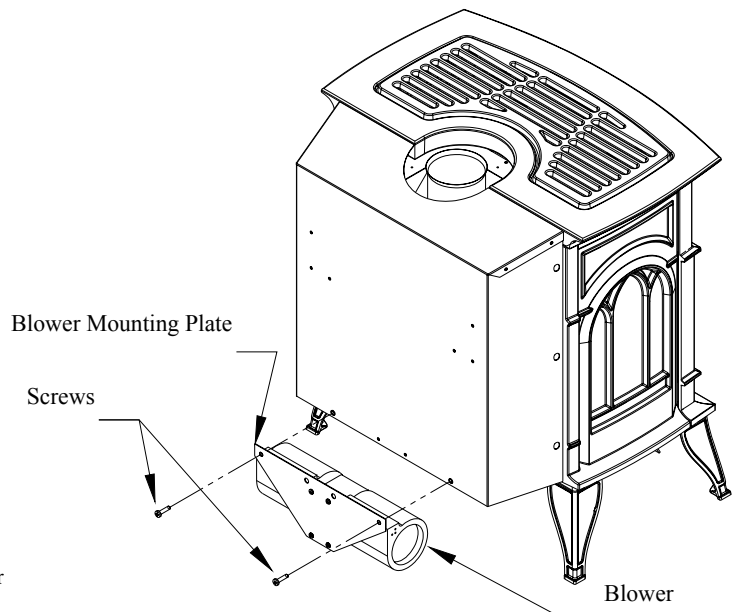

Figure 3: Blower Installation
2. Using two (2) $\frac{1}{4}$ -20 machine bolts provided, attach blower mounting plate to the unit as shown in Figure 3. The blower is factory assembled with the mounting plate.